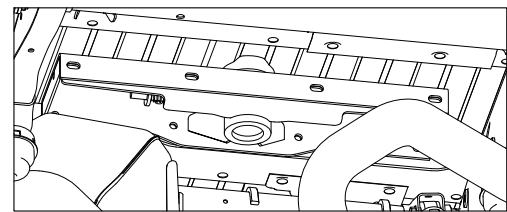

FIGURE B6: View of truck bed looking towards front of truck.
2. **Stage center section.** Raise the center section into place as shown in figure B6, staging it for installation. When staged correctly, the receiver socket will be "offset" toward the rear of the truck. It may be helpful to pull down on the exhaust while positioning to allow extra room for maneuvering it into position.